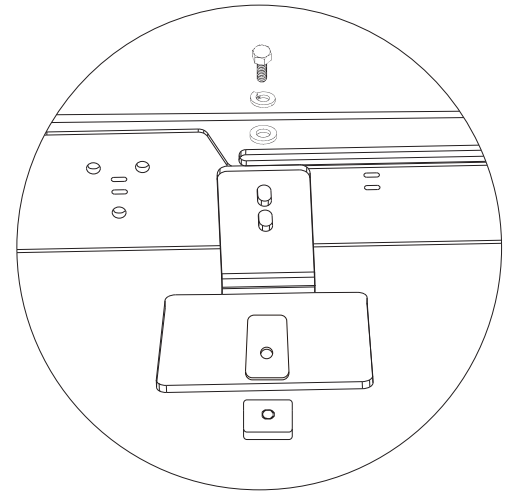

FIGURE 1
2. SPACE OUT THE RAIL NUTS CLOSE TO THE FINAL POSITION (GROUPS OF 2) SEE FIGURE 1 FOR ROUGH REFERENCE DIMENSIONS.
3. BEGIN PLACING THE RAILS ON THE ROOF. THE RAIL WITH THE FCC BADGE SHOULD GO ON THE DRIVER SIDE OF THE CAN IN THE REAR LOCATION. ALL OF THE RAILS ARE UNIQUE TO ACCOMMODATE DIFFERENT LADDERS AND PLACEMENTS. START LOOSE LATTACHING THE SIDE RAILS TO THE ROOF RAILS USING THE M8-30 HEXAGON HEAD SCREW & M8 SPRING LOCK WASHERS & M8 WASHERS BUT DO NOT TIGHTEN ALL THE WA DOWN. (SEE FIGURE 1 FOR DETAIL)